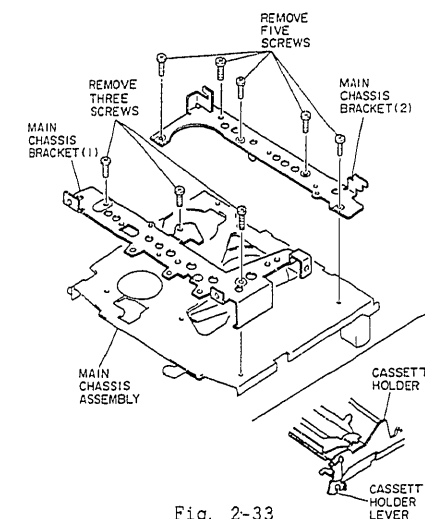

Fig. 2-33
- 1) Remove three (3) screws holding the main chassis bracket (1). (See Fig. 2-33)
- 2) Remove five (5) screws holding the main chassis bracket (2).